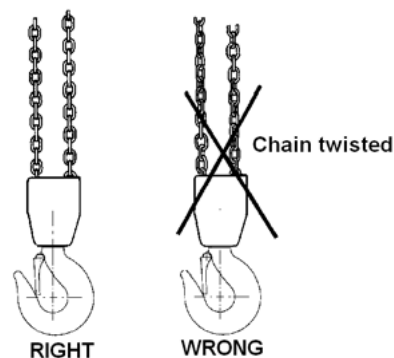

Fig. 5 The chain must not be twisted
- The chain must not be kinked or twisted. With 2-fall lever hoists (6,3 t), there is a risk of the chain twisting if the bottom hook assembly ends up looped through the chain sling – usually during refitting or moving the hoist between work stations. See Fig 5.